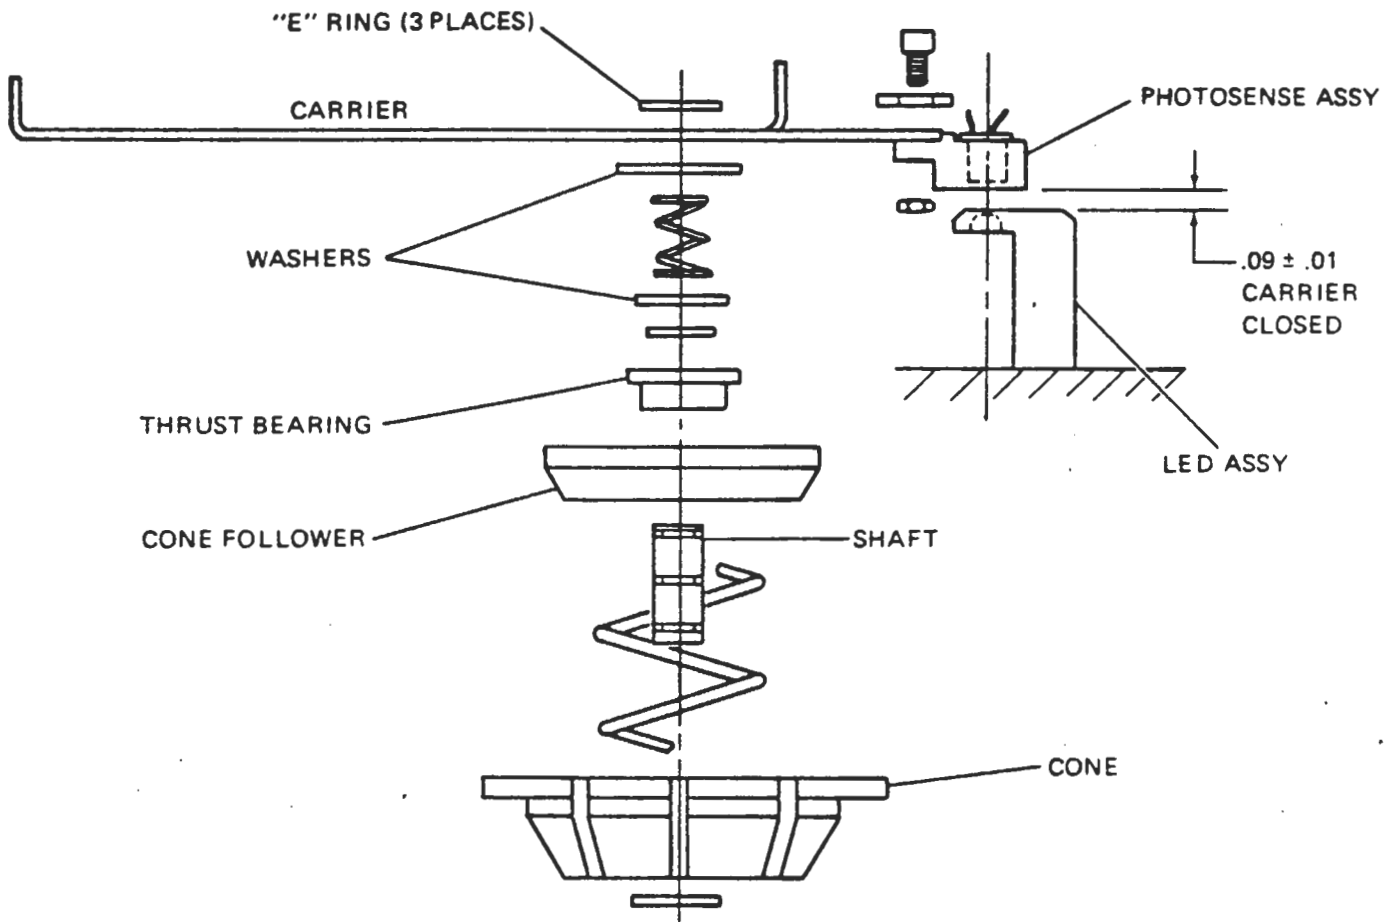

Figure 6-7 Index Transducer Alignment and Replacement
- c. Slacken No. 2 Allen cap screw securing photosense to carrier. (Figure 6-7)
- c. Remove E ring holding the cone assembly to the carrier. (Figure 6-7)